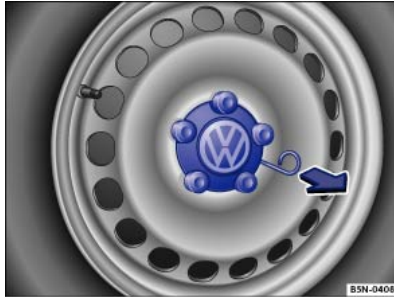

Fig. 241 Removing the centre covers by pulling.
- *To remove:* take the wire hook from the vehicle tool kit \Rightarrow *Vehicle toolkit* and hook it into the edge of the cover \Rightarrow Fig. 241 .